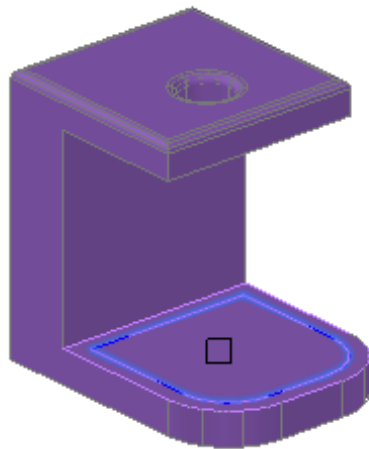

Figure Step 4A
Step 4 Set layer: Solid 2 as the current layer. Enter the PRESSPULL command. When prompted, select inside the polyline and enter the height of -0.35 as shown below. (Figure Step 4A and 4B)